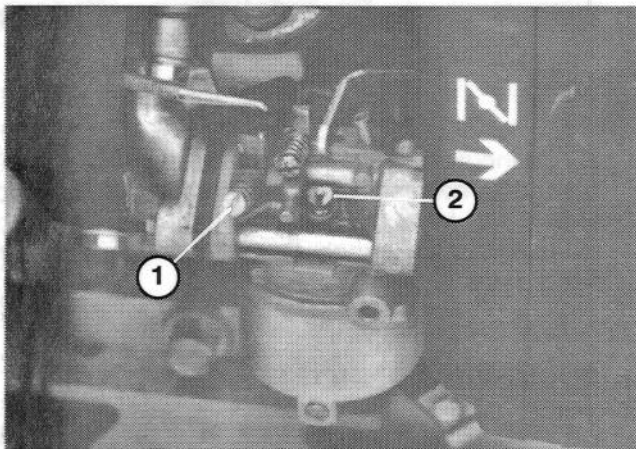

Figure 41
1. Pilot Screw (Fig. 41) - Close screw by gently rotating it clockwise.
5. Rotate carburetor adjusting screw (Fig. 41) clockwise to increase speed and counterclockwise to lower idle speed. Using a tachometer set speed to 800 rpm.